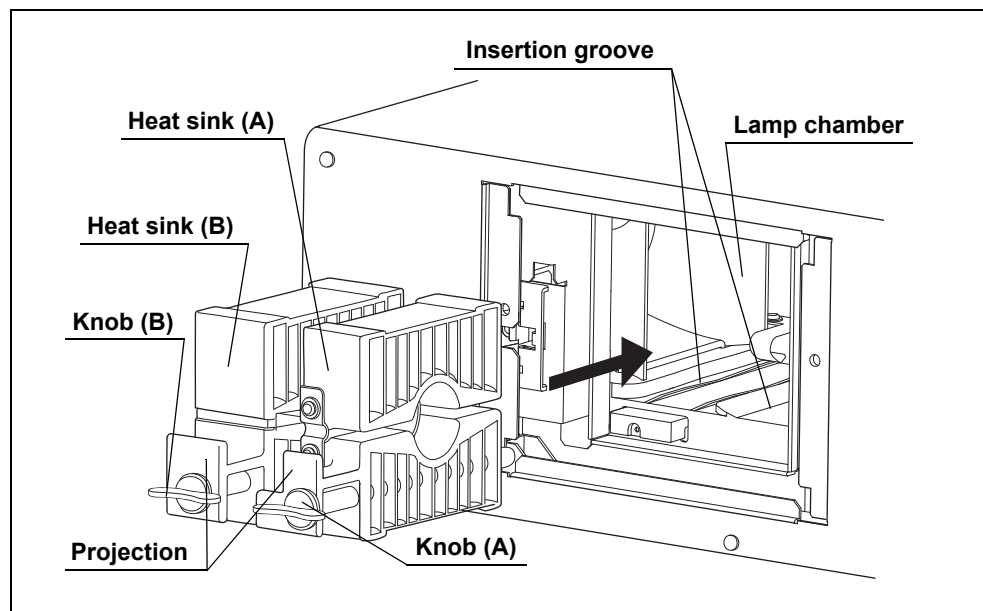

Figure 6.12
- 10** Confirm that the heat sinks are attached firmly by pulling the projection. (See Figure 6.12)